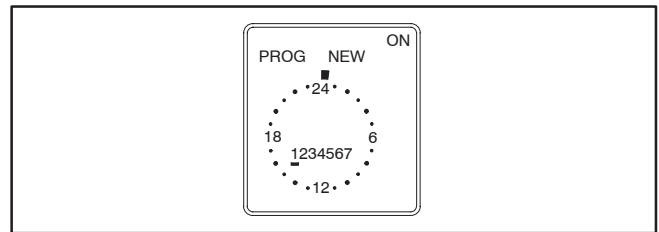

FIGURE 9. SETTING THE DAY OF THE WEEK THE EXERCISE IS TO BEGIN
- 2.. The selector button (⬇️) will be pointing at **PROG NEW**. Press the **OK** button again. “ON” is displayed in the top right corner of the screen and the first day of the week is underlined (see Figure 9).